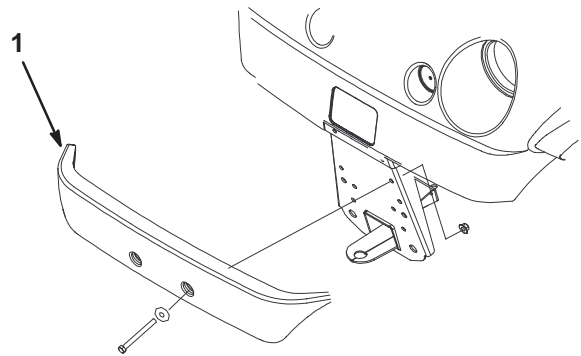

Figure 5
2. Align the mounting holes and secure the bumper to the frame with the fasteners previously removed (Fig. 5).